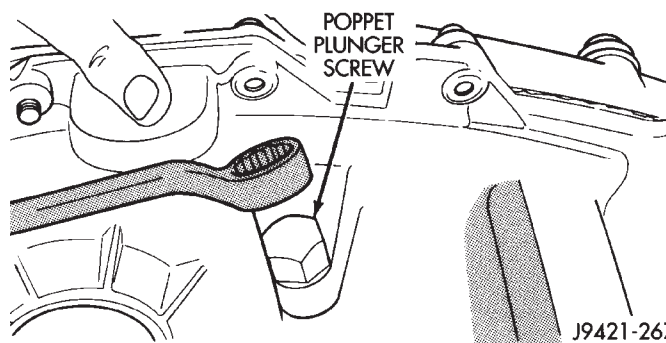

Fig. 31 Loosening Poppet Plunger Screw
- (2) Loosen poppet plunger screw (Fig. 31).